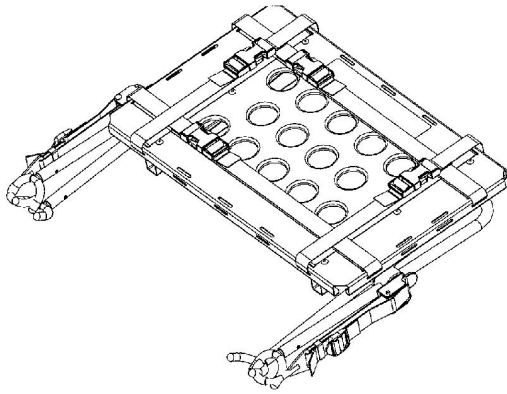

Figure 26 – Stored position
1. Place the defibrillator platform in the stored position (Figure 26).